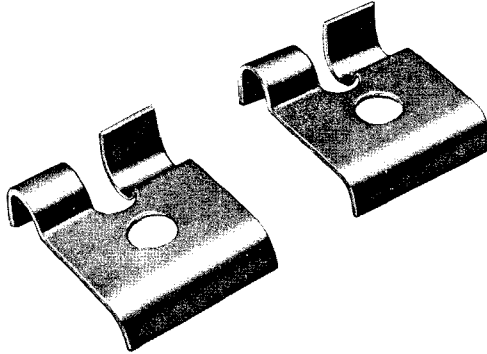

Fig. 7—Hangers for Strand Mounting
- (e) **Two 54A hangers** (Fig. 7) are required to make an aerial installation of 50- and 51-type closures.